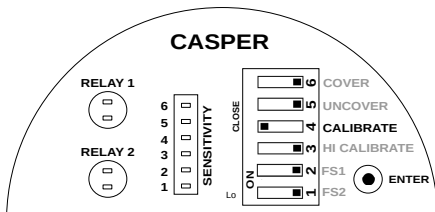

Figure 9: Calibration Switch Position
- To start the calibration process, set the CALIBRATE switch to CLOSE (Opposite of OPEN for DIP switch) position as shown in Figure 9.